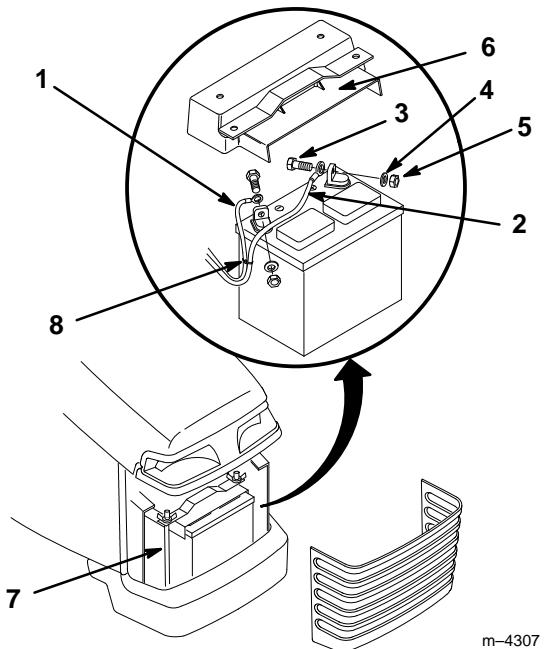

Figure 55
3. Remove the battery shield (Fig. 55).
4. Disconnect the negative (black) ground cable from the battery post (Fig. 55).
5. Disconnect the positive (red) cable from the battery post (Fig. 55).
1. Place the battery onto the chassis (Fig. 55).
2. Using the bolt, washer and locknut, connect the positive (red) cable to the positive (+) battery post (Fig. 55).
3. Using the bolt, washer and locknut, connect the negative (black) cable to the negative (-) battery post (Fig. 55).